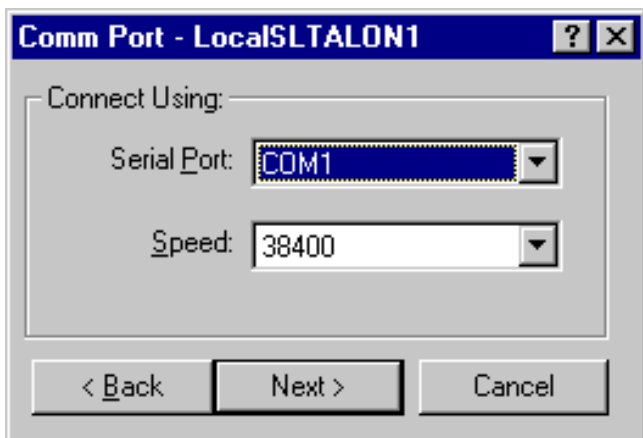

FIGURE 4-18. SLTA LOCAL SETUP SPEED
- d. Click on the **Update Identifier** box to select it; then click on **Next**. The Comm Port dialog box is displayed (see Figure 4-18).